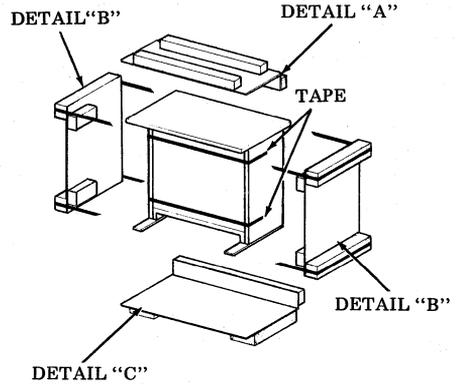

Fig. 7—Typical Packing Details and Pedestal
3.07 Remove tape and packing details (Fig. 7). Place pedestal in position where it is to be located.